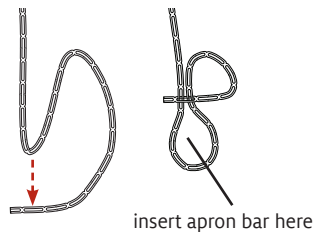

FIGURE 12: ATTACH CORDS TO APRON BARS
13. Attach apron cords to the apron bars: Fold a cord about 4" from the free end and insert the fold through the second loop at the free end of the cord (Figure 12). Insert the apron bar through the loop and pull tight. Repeat for each cord, attaching one apron bar to the cloth beam and another to the warp beam.